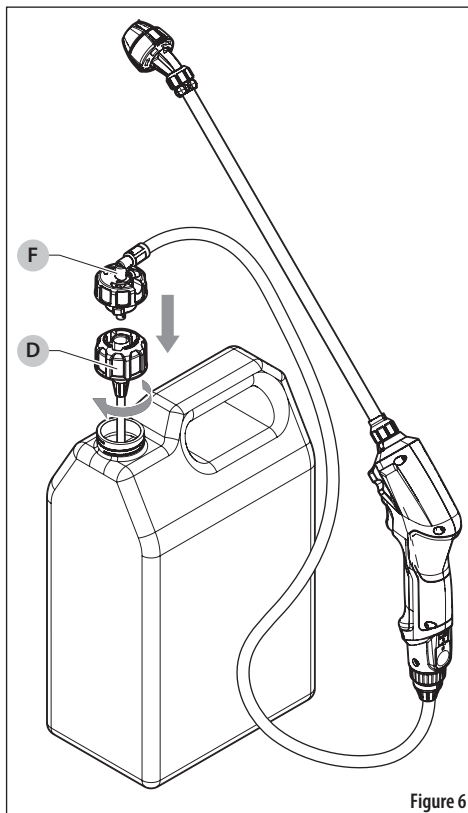

Figure 6
The universal adapter cap (D) attaches the power wand to any 38 mm ready-to-use product labeled for use with this sprayer. See Figure 6.